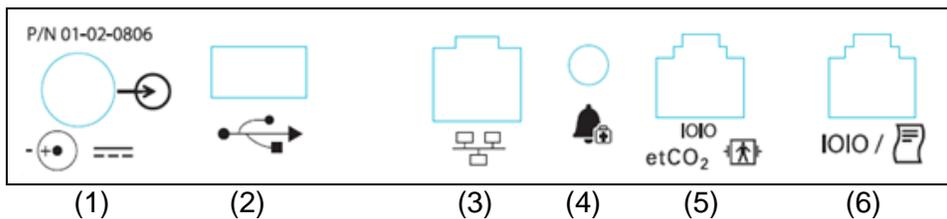

Figure 34: 740 SELECT monitor Rear Panel Ports & Connections
Figure 34 illustrates the Rear Panel Ports and Connections. The external ETCO2 module cable should be connected into the Port (5) that is marked **IOIO etCO₂**.